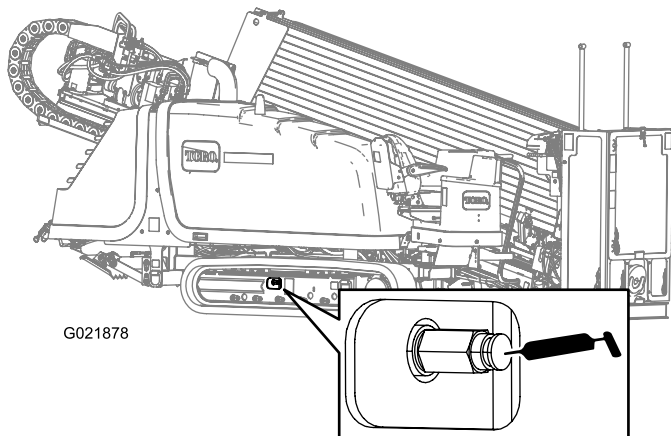

Figure 135
2. Remove dirt and debris found around the track-tension grease valve (Figure 135).
4. Apply grease to the fitting until the tension reaches 22,063 kPa (3,200 psi) as shown in Figure 135.
4. Turn the track-tension grease valve counterclockwise **no more than 1 revolution** (Figure 135).